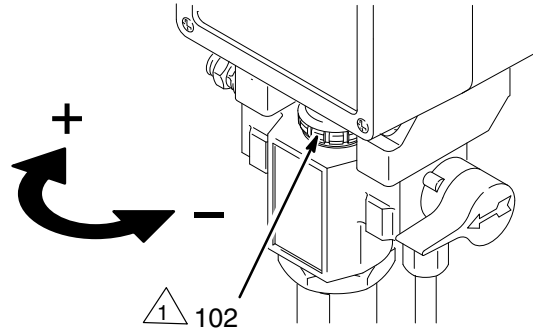

Fig. 11
2. **Check the packing nut/wet-cup daily (102).** Relieve pressure first. Keep the wet-cup 1/3 full of TSL at all times to help prevent fluid buildup on the piston rod and premature wear of packings.
3. **Tighten the packing nut/wet-cup (102) just enough to stop leakage.** Over-tightening causes binding and excessive packing wear. Use a round punch or brass rod and a light hammer to adjust the nut. See Fig. 11.